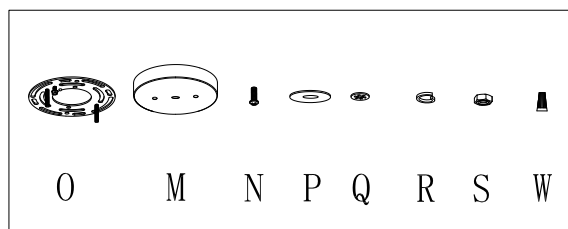

Fig. 4
PREPARATION (Fig. 4 & Fig. 5)
4. Attach the mounting plate (O) to the outlet box using outlet box screws (N) (Size: #8-32N*L0.5"). Then adjust the length of mounting screws (T) and tighten with hex nuts. The side of the mounting plate (O) marked "GND" must face out. (Fig.4)
FINISHING THE INSTALLATION (Fig.4)
Note: Illustration (Fig.4) on this manual is for installation purposes only. It may or may not be identical to the fixture purchased.